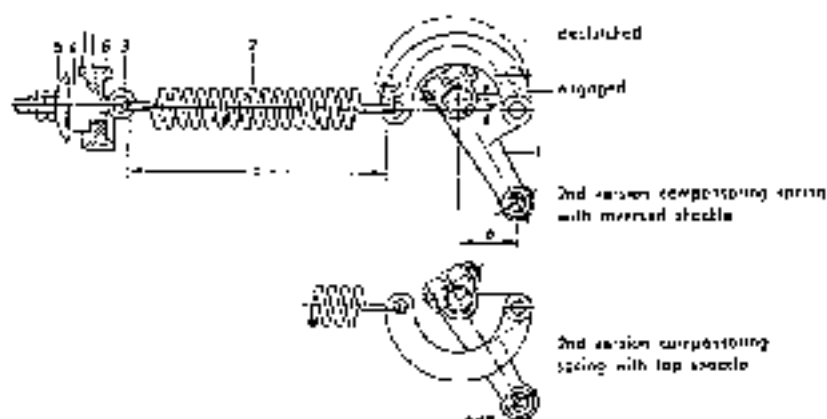

Fig. 29-5/5
end plate, attach the flange (8) to the jointing disk (2) and slide the rubber cuff (5) onto the end plate (2) (Fig. 29-5/1).
17. Install the clutch linkage. Attach the compensating spring (18) on the 2nd version and (18a) on the 3rd version and the return spring for the throw-out fork (Fig. 29-5/1). The distance between center pedal shaft downward to center compensating spring should be 4 mm in the case of the 3rd version shaft when the clutch is engaged (see Fig. 29-5/5).
The distance can be varied by changing the position of the end plate in relation to the transmission (see Fig. 29-5/1).